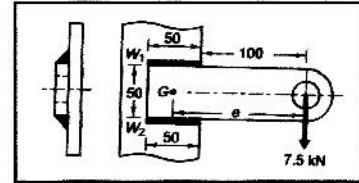

Fig. 1
2. (a) A welded connection, as shown in Fig. 1 is subjected to an eccentric force of 7.5 kN. Determine the size of welds if the permissible shear stress for the weld is 100 N/mm^2 . Assume static conditions.